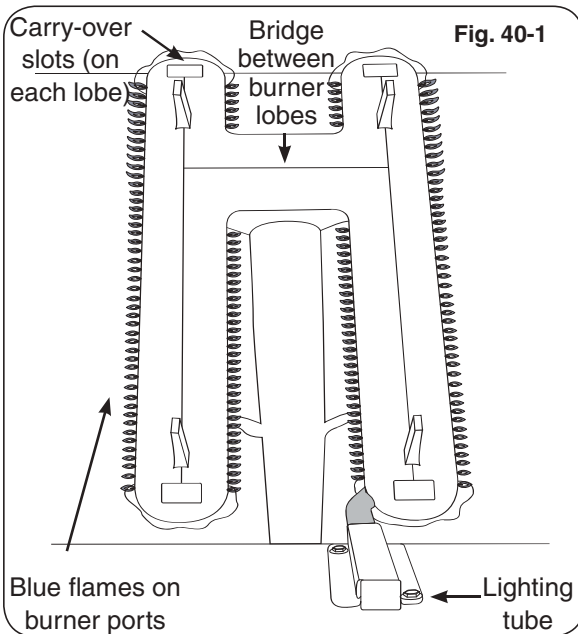

Fig. 40-1
Flames from a properly adjusted main burner with no wind or breeze present will appear fairly steady, consistent, and mostly blue. If the tip of a flame were to turn orange, it should only do so briefly and then become blue again. The flames will appear to burn while touching the burner ports (see Figure 40-1).
- Repeat steps 1-4 until the flames appear to touch the burner ports, burning fairly steadily and mostly blue (see Fig. 40-1).